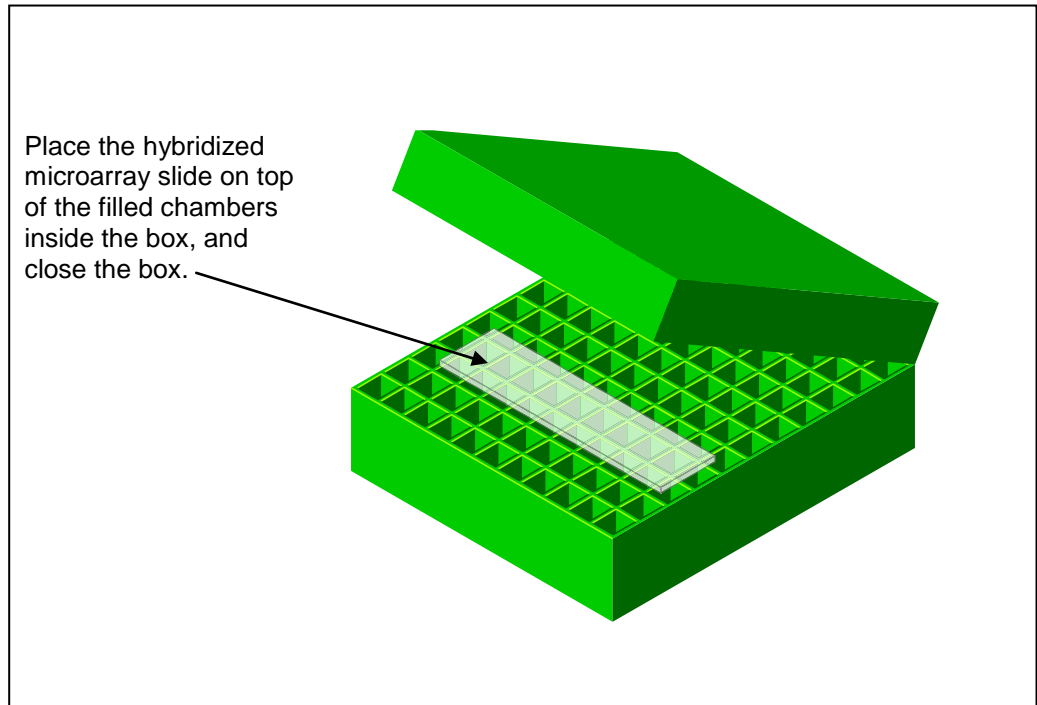

Figure 2: Step 5A → Glass Slide inside Chamber Box¹
- 8) Place the entire labeled target plus the microarray set-up into a closable, chambered box* that is humidified by 2x SSC buffer in the 37°C oven for 14 to 16 hours. A sealed chamber ensures that the appropriate humidity level is maintained during incubation. (See Figure 2).
Figure 2, below, provides an illustration of Step 5A, where the hybridization protocol is completed using the glass cover slide method, and specifically, the Mouse & Rat miRNA OneArray[®] Microarray is placed into the chambered box.